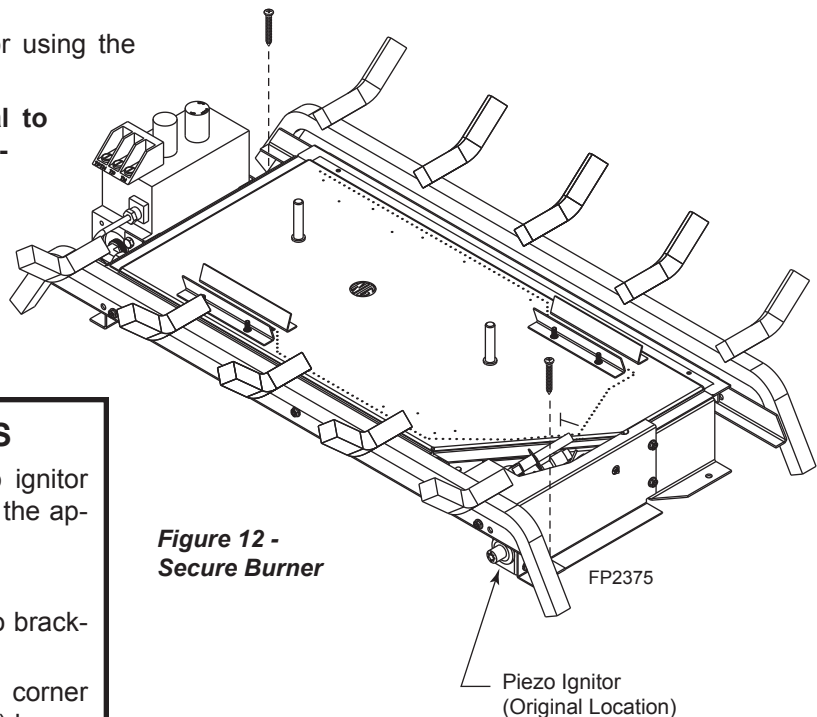

Figure 12 -
2. Anchor holes are located on the right and left sides of the unit. After centering the grate correctly, mark the hole locations on the fireplace/firebox floor. Drill two (2) 5/32" diameter holes approximately 1½" deep.
3. Anchor the unit to the fireplace/firebox floor using the screws provided. *Figure 12*